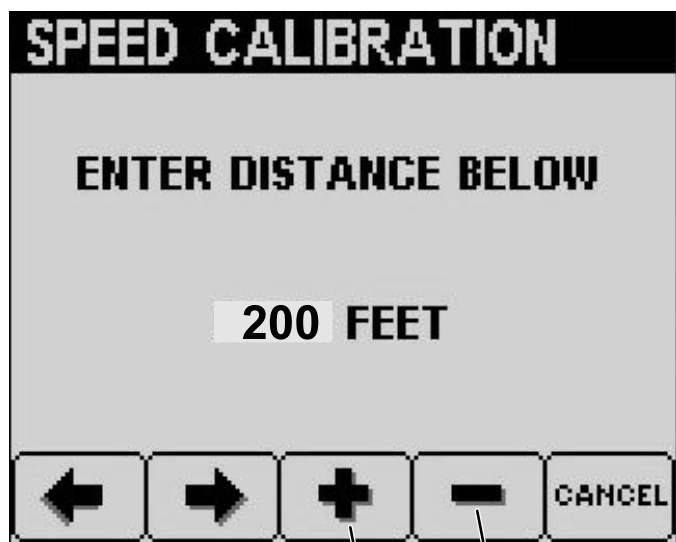

Figure 22
7. Press button 3 to increase the desired distance or press button 4 to decrease the desired distance (Figure 22).